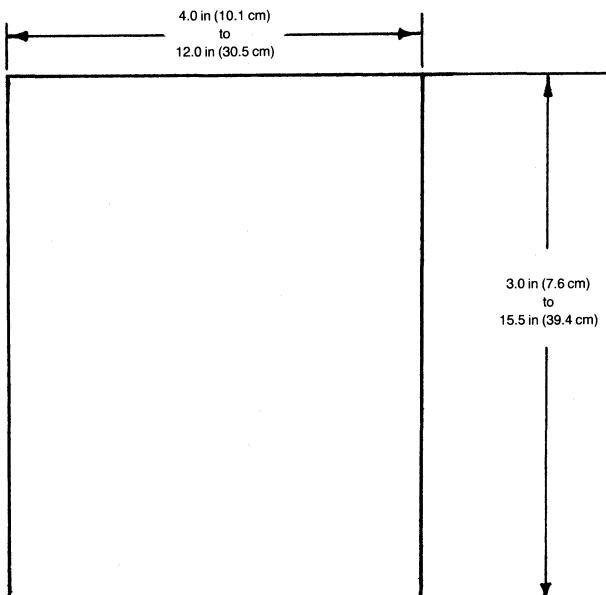

Figure D-2 Cut Sheet Forms Design.
1. Size: See Figure D-2 for specifications.